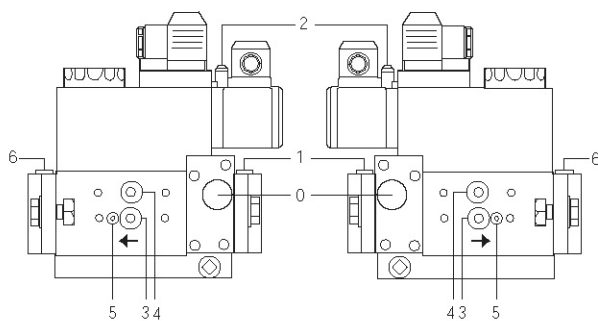
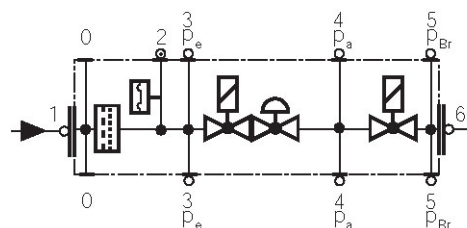

Fig. 10
Fig. 11
ATTENTION: To set the outlet pressure of the VD-R regulator, act on the adjustment ring nut (Fig. 10). The position of the indicator in the dial indicates the value of the outlet pressure calculated as a percentage of the full scale of the PS sensor (Fig. 11)
- Change the filter if the pressure difference between pressure connection 1 and 3 (Fig. 10-Fig. 11) is $\Delta p > 10$ mbar.
- Change the filter if the pressure difference between pressure connection 1 and 3 (Fig. 10-Fig. 11) is twice as high compared to the last check.